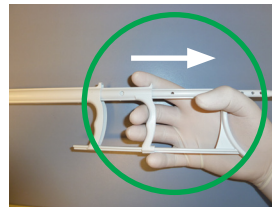

Figure 5
- e) Leave your thumb bent and in a bent fixed position as in Figure 5.